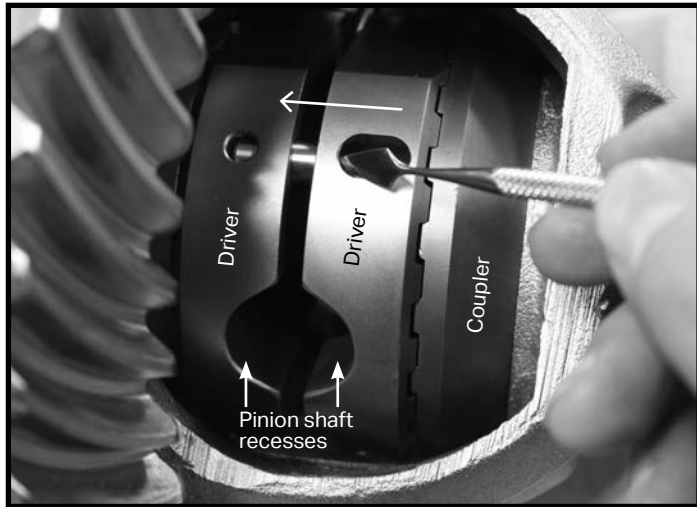

Figure 6: Push shear pins into opposite driver
2. Push the shear pin out of the window hole and into the pin hole in the opposite driver with a small pointed tool (**Figure 6**).